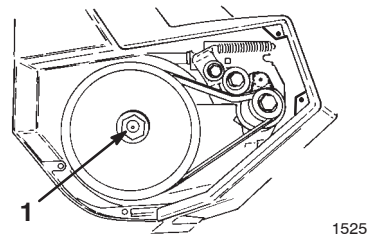

Figure 14
3. Hold the hex nut with a 7/8-inch wrench while unscrewing the rotor shaft (Fig. 14).